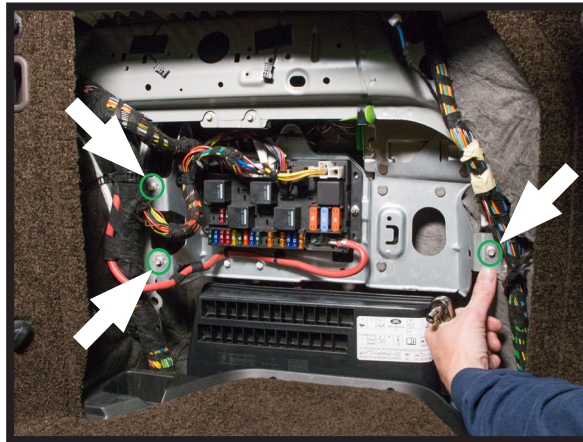

FIGURE 3
2. REMOVE THE (3) SCREWS HOLDING THE FUSE PANEL IN PLACE TO ACCESS THE REVERSE SIDE. (FIGURE 3)